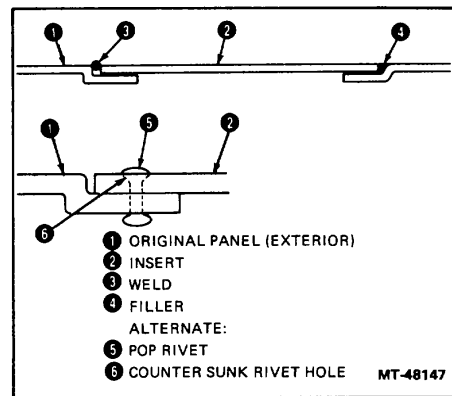

Figure 51. - Panel Metal Insert Attachment.
- Attach the insert to the original panel by spot or tack welding it in place or by securing it with pop rivets (Figure 51).